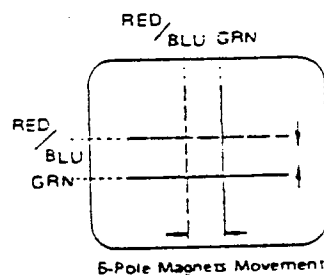

Fig 4-4
- (6) Adjust two tabs of 6-Pole Magnets to superimpose red/blue line with green one Adjusting the angle affects the vertical lines and rotating both magnets affects the horizontal lines. (See Fig 4-4)
- (7) Repeat adjustments (4).(5).(6) until best convergence is obtained, since 4-Pole Magnets and 6-Pole Magnets interact each other, it makes dots movement complex.